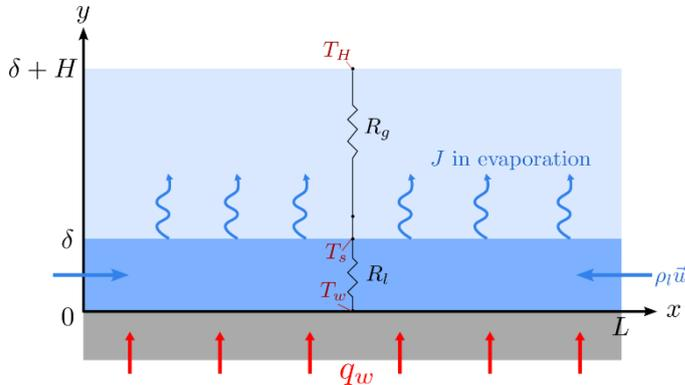

Figure Q3 Heat transfer through a thin water film.
3. Consider a steady-state thermal management system, shown in **Figure Q3**, where the heat (with heat flux q_w , W m^{-2}) reaching a flat solid surface is dissipated through the evaporation of a thin water film in gases. The right amount of water is fed to the liquid film from the side to maintain a constant thickness δ , during the evaporation process. The top boundary, which is H meters away from the liquid surface, remains at constant pressure p and constant temperature $T_H = T_{sat}(p)$, where T_{sat} is the saturation temperature at p .
The heat transfer process through the liquid film and the gas domain can be represented by an electrical analogy network, also shown in fig. Q3, where the temperature differences, the heat flux, and thermal resistances (R_l in the liquid film and R_g in the gas domain) depend on the heat transfer process.